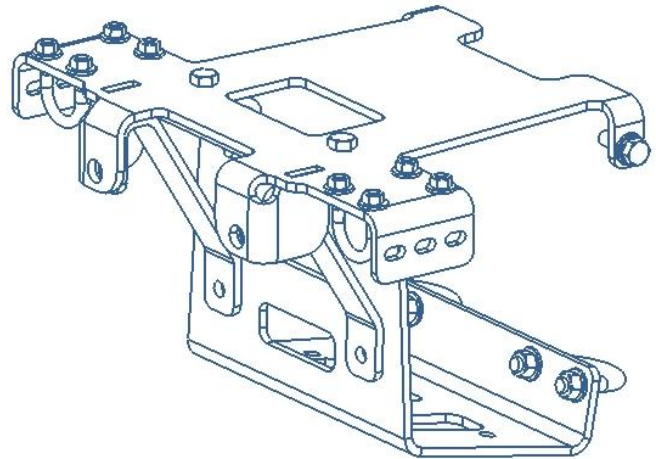

Figure 16 Assembled Upper and Lower Brackets
11. Double check that all nuts and bolt on the upper and lower mounting brackets are securely fastener. The assembled brackets should look like figure 16.